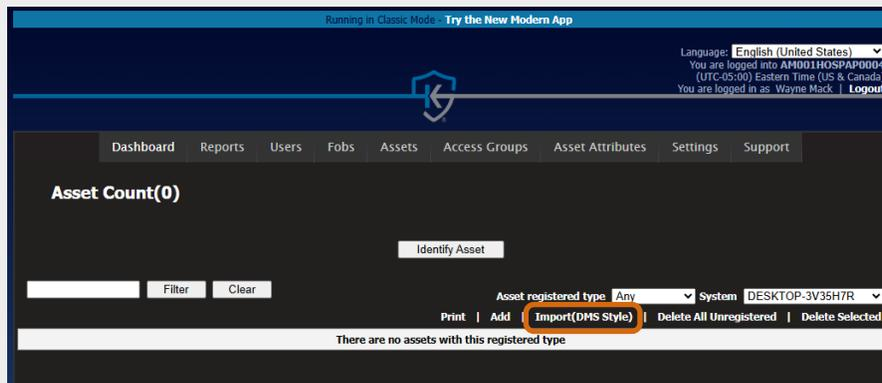

Fig. 79 – Asset Count screen with **Import(DMS Style)** button indicated
4. To import assets, click **Import(DMS Style)**, shown in Fig. 79.